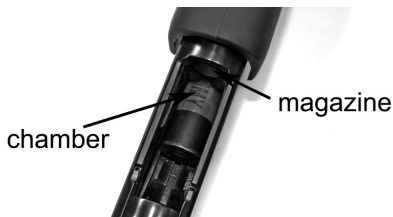

FIGURE 5
3. Place the correct gauge shell onto the follower and press downward until it is aligned with the chamber (see FIGURE 5).
2. Carefully place the tip of your finger on the spring loaded end of the magazine, pushing slightly inward to be sure that it moves and there is no shell in the magazine tube (see FIGURE 5).